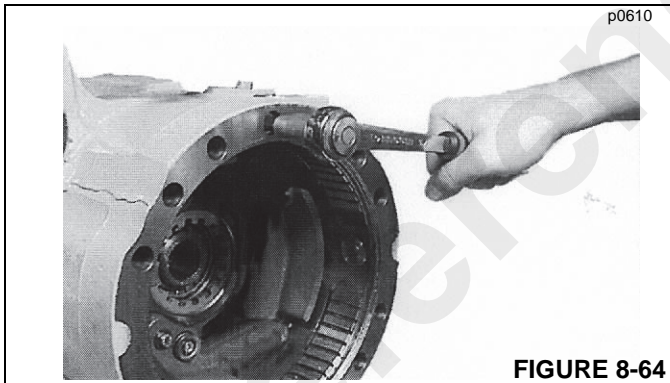

FIGURE 8-64
7. Secure the brake flange using a sling and hoist. Unscrew the upper screw and lower stud bolt (Figure 8-64). Remove the differential supporting flange from the center housing, together with the bevel gear backlash adjusting ring nut.